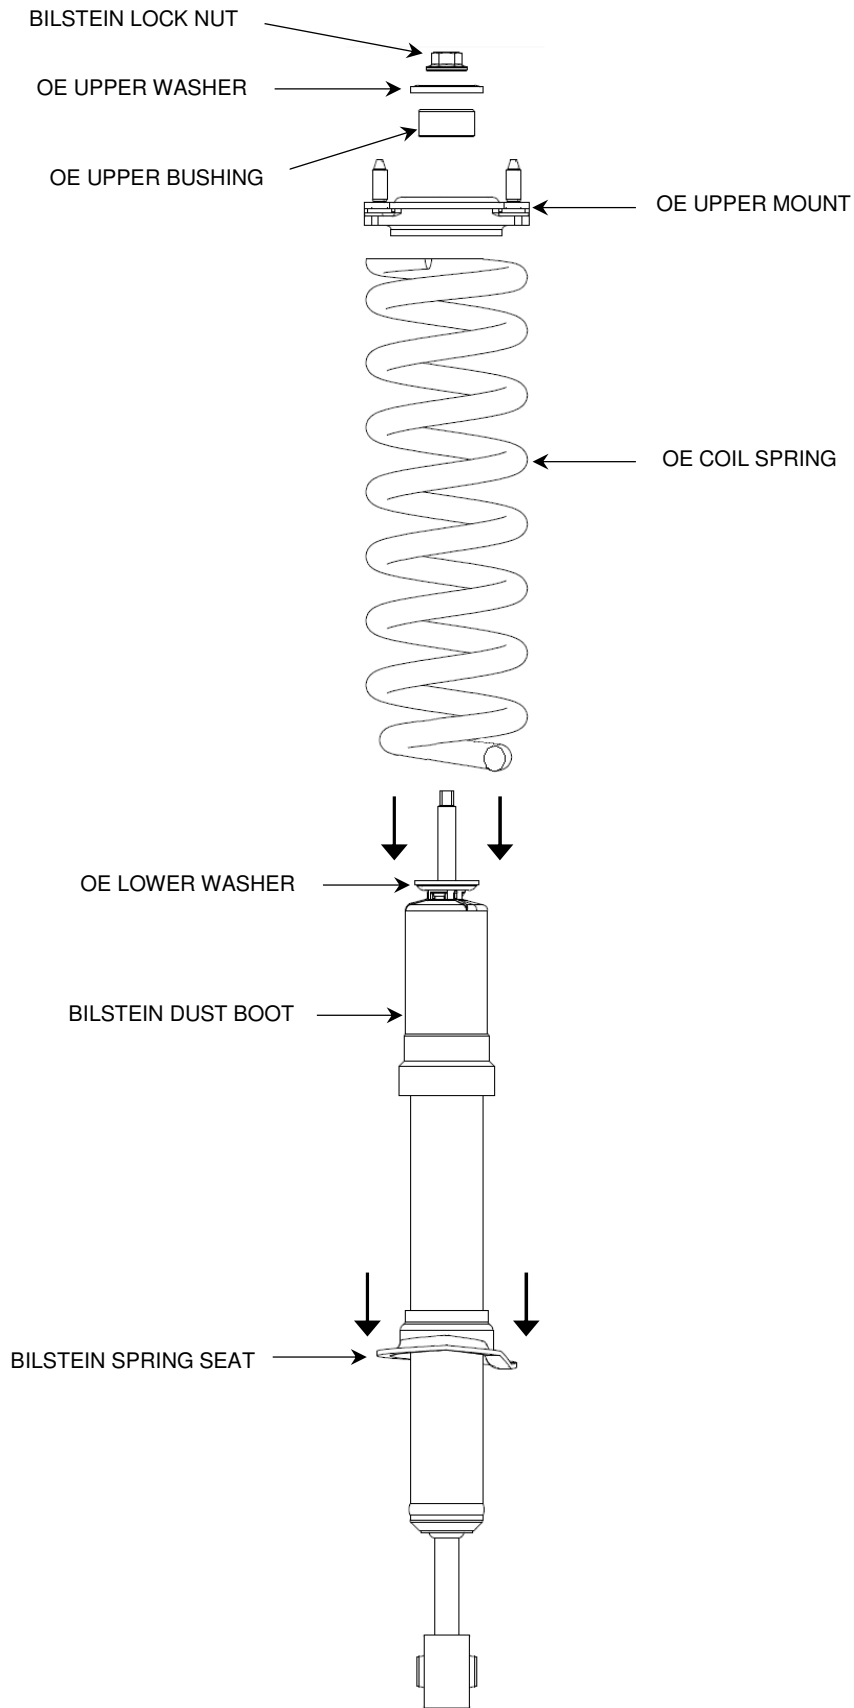

Figure 1
- F. Install the OE lower washer (concave side up) onto the stem of the rod as shown. Ensure that the lower washer is oriented correctly (see Figure 1).
- G. Using an appropriate spring compressor, compress the OE spring and assemble it with the new Bilstein shock. Align the bottom coil of the spring with the ramp on the spring seat. Refer to Figure 1 for the order of the remaining components.
- I. Install the OE upper bushing and OE upper washer (concave side down) as shown. Ensure that the upper washer is oriented correctly (see Figure 1).